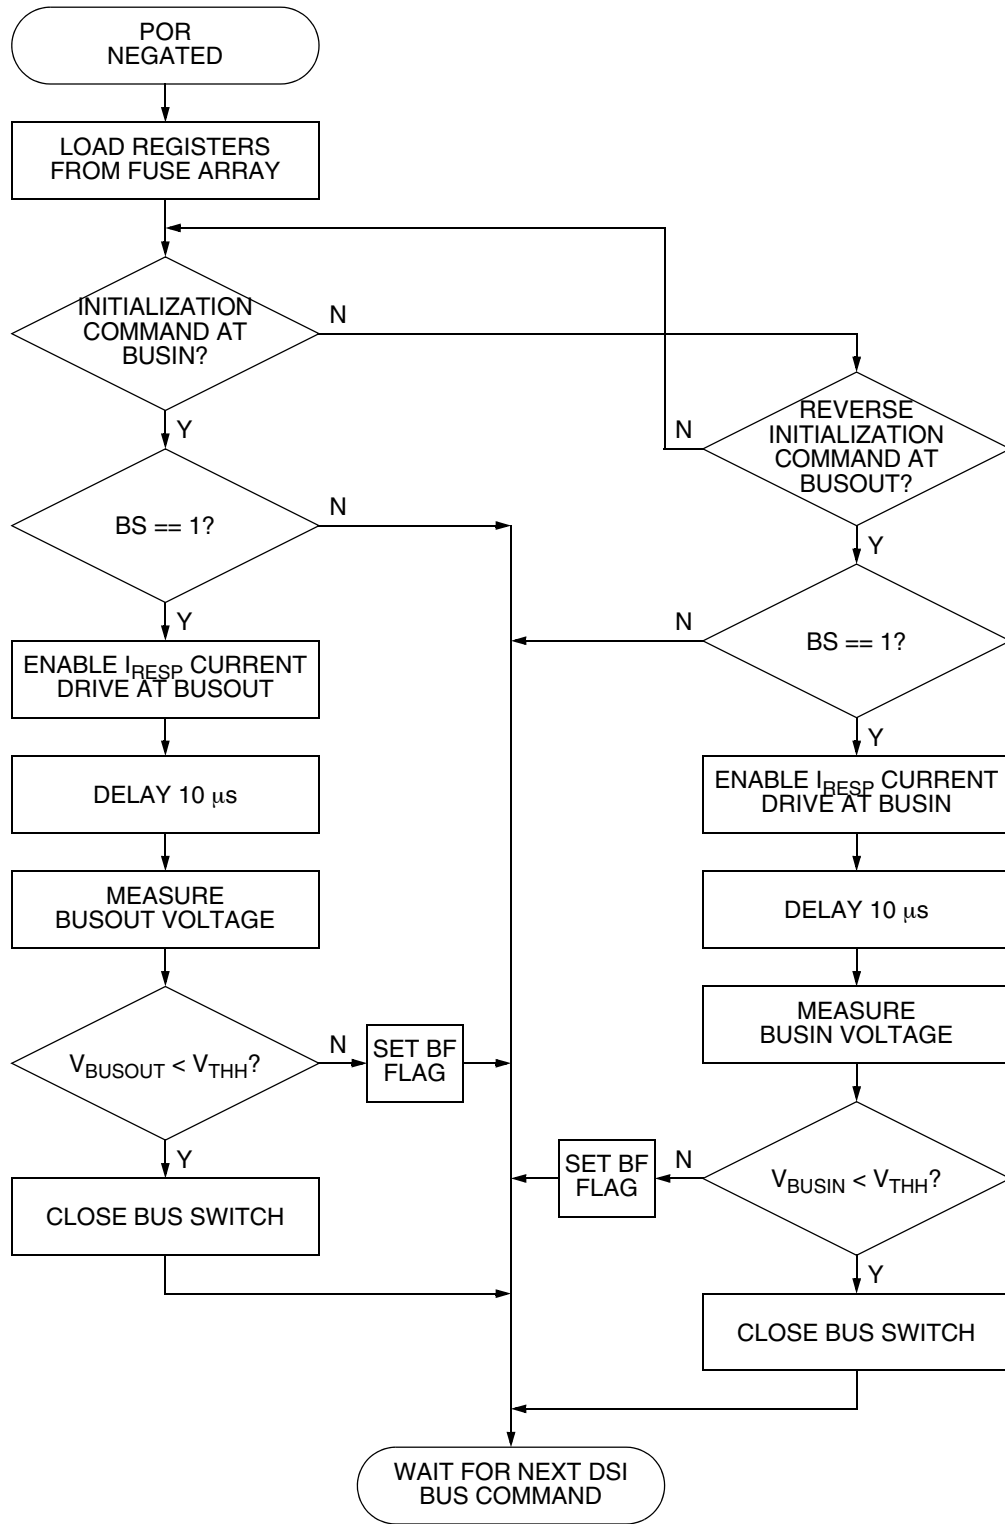

Figure 4-1. Initialization Sequence
Figure 4-1 illustrates the sequence of operations performed following negation of internal Power-On Reset (POR) and execution of a DSI Initialization command. Initialization commands are recognized only at BUSIN. The BUSOUT node is tested for a bus short to battery high voltage condition, and the Bus Fault (BF) flag set if an error condition is detected. If no bus fault condition is detected and the BS bit is set in the command structure, the bus switch will be closed. If the BS bit is set, the DSI bus voltage level is disregarded for approximately 180  $\mu$ s following initialization to allow the hold capacitor on a downstream slave to charge. If the device has been pre-programmed, PA3 - PA0 and A3 - A0 must match the pre-programmed address. If no device address has been previously programmed into the OTP array, PA3 - PA0 contain the device address, while A3 - A0 must be zero. If any addressing condition is not met, the device address is not assigned, the bus switch will remain open and the device will not respond to the Initialization command.